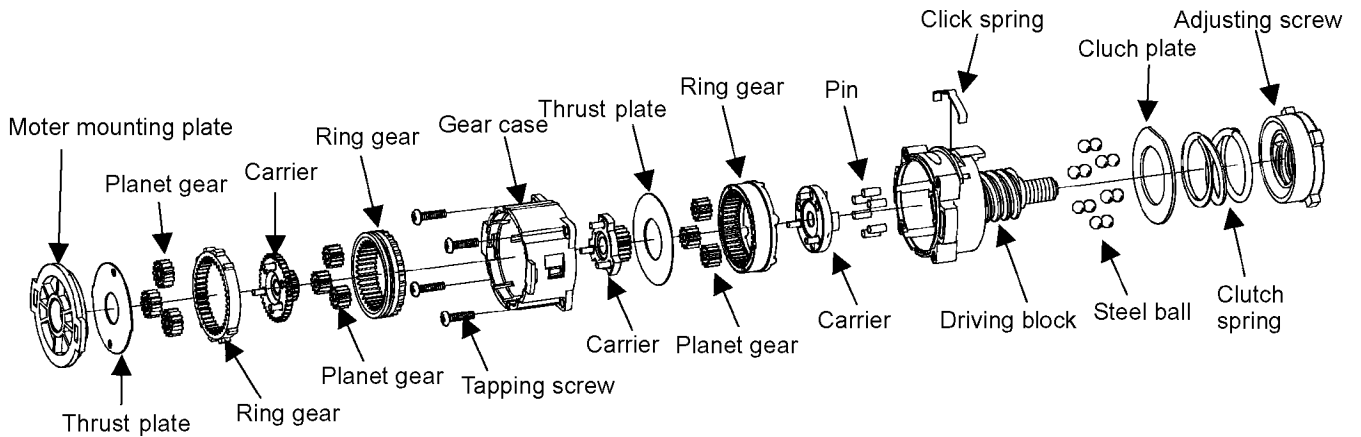

Fig. 6
2. The internal parts of gear box block can be removed one after another. (See Fig. 6)
2. Assemble the other parts in reverse order as shown in the Fig. 6.